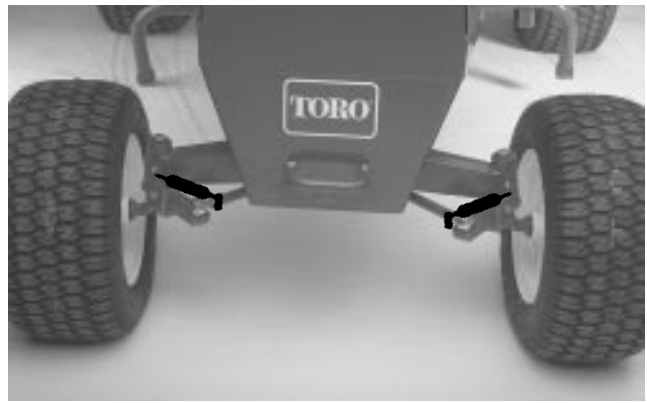
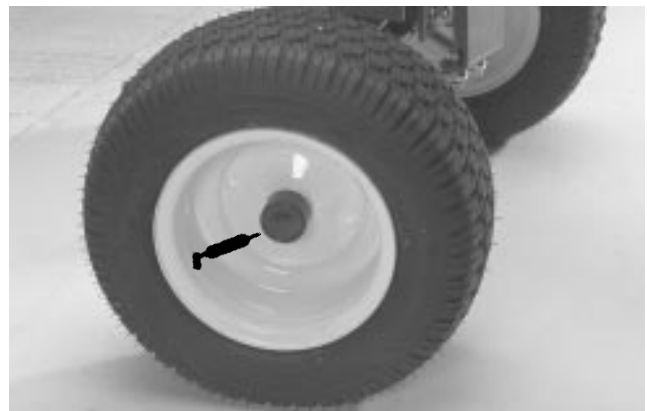
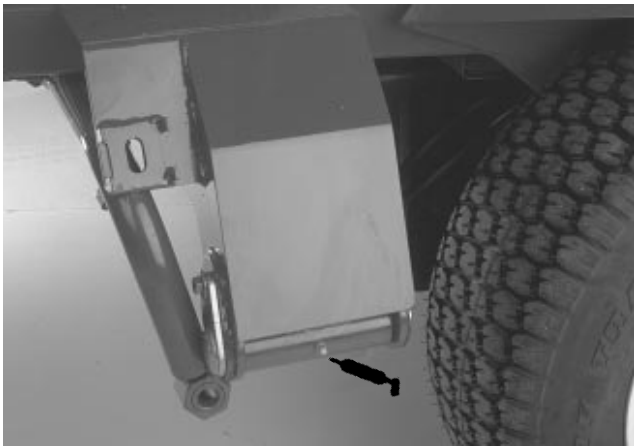

Figure 56
Figure 57
Figure 54
(Fig. 54–66)
Lift arms (2) (Fig. 54), rear axle pivot (Fig. 55), rear wheel spindles (4 wheel axle only) (Fig. 56), rear wheel(s) (Fig. 57), lower steering shaft (Fig. 58), jack shaft bearings (Fig. 60), intermediate jack shaft bearings (Fig. 60), upper steering shaft (Fig. 61), front lift arm (Fig. 61), idler pulleys (Fig. 62), lift cylinder pivot (Fig. 63) and transmission neutral adjust eccentric (Fig. 64).